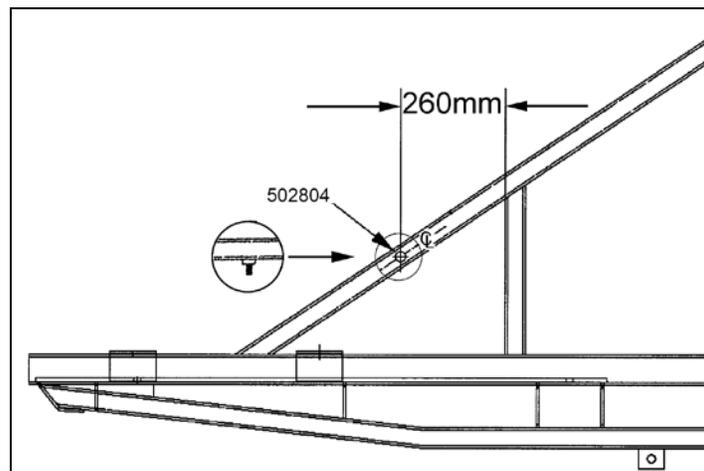

Figure 2 : POSITIONING OF BOLT #502804
7. In order to fix the main tank support, weld bolt #502655 head on diagonal square tube at a distance of 260mm (10 1/8") from vertical member (see figure 2).